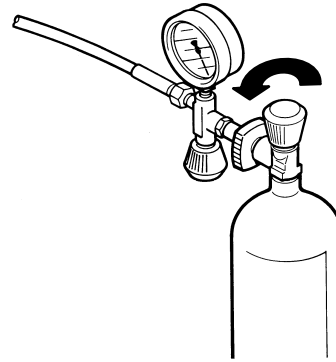

Fig. 11 Connecting air bottle
- Connect air bottle to filling valve (see Fig. 11).